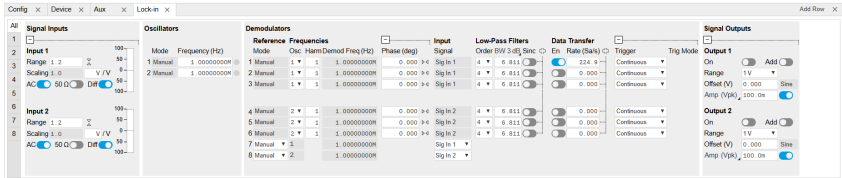

Figure 5.10: LabOne User Interface Lock-in tab - Parameter table (All)
The parameter table (see Figure 5.10) consists of 4 vertical sections: Signal Inputs, Oscillators, Demodulators and Signal Outputs. The Demodulators sections gives access to all the settings of demodulators 1 to 6 that can be used for measurement, and of demodulators 7 and 8 that can be used for external referencing. Demodulators 1 to 3 (4 to 6) are connected to Signal Input 1 (2).